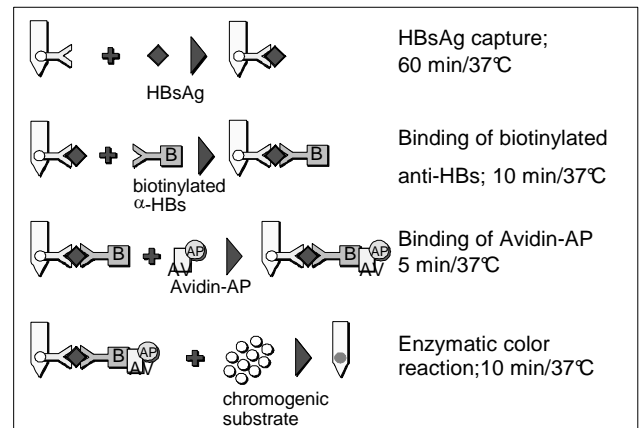

Figure 1. Principle of the Test
To start the test, serum or plasma specimens are filled in the wells of row A of the Developing Plate. Following this step, 20 µl of sample diluent is added to each of the wells in row A. The Card is then inserted in the wells of row A. HBsAg, if present in the specimens, will be captured by the anti-HBs antibodies on the lower spot on the teeth of the Card (Figure 1). Unbound components are washed away in row B. In row C, HBsAg captured on the teeth, will react with biotinylated anti-HBs antibodies. In row D the biotinylated antigen/antibody complex on the lower spots of the teeth, and biotinylated bovine serum albumin on the upper spot (Internal Control), will react with avidin labeled with alkaline phosphatase (AP). In row E unbound components are removed by washing. In row F, the bound alkaline phosphatase will react with chromogenic components. The results are visible as gray-blue spots on the surface of the teeth of the Card.